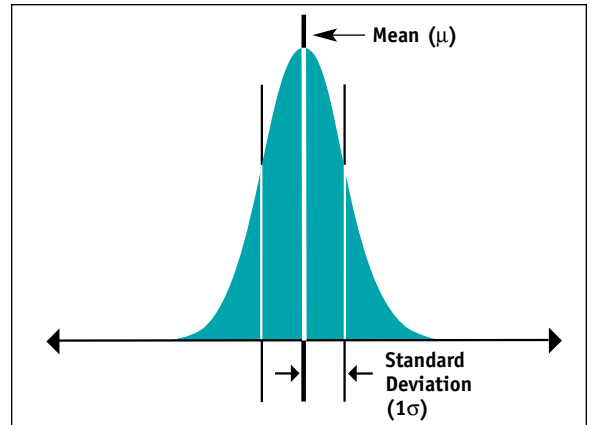

Figure 3. A Gaussian distribution with a mean (μ) and a standard deviation (σ). This figure represents a PDF for a Gaussian distribution.
Random jitter (RJ) is characterized by a Gaussian distribution and assumed to be unbounded. As a result, it generally affects long-term device stability. Because RJ is Gaussian in nature, the distribution is quantified by the standard deviation or 1σ and mean (μ) as shown in Fig. 3. Because RJ can be modeled as a Gaussian distribution, it can be used to predict pk-pk jitter as a function of BER. This means that for a BER 1.3×10^{-3} , 6σ would provide a pk-pk range that includes all of the samples except an amount represented by multiplying the total number of samples by 0.0013. For serial communication standards, such as Fibre Channel and Gigabit Ethernet, TJ is typically described at a BER of 10^{-12} , which is 14.069 times the 1σ value.